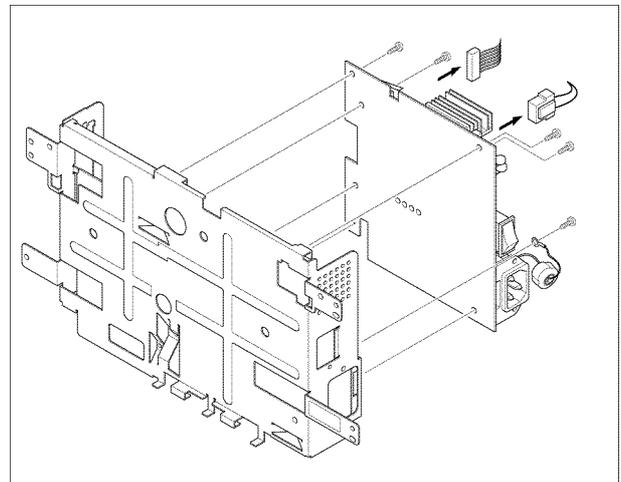

Figure 1
2. Disconnect all SMPS connectors. Remove 5 screws, then the SMPS, Figure 1.